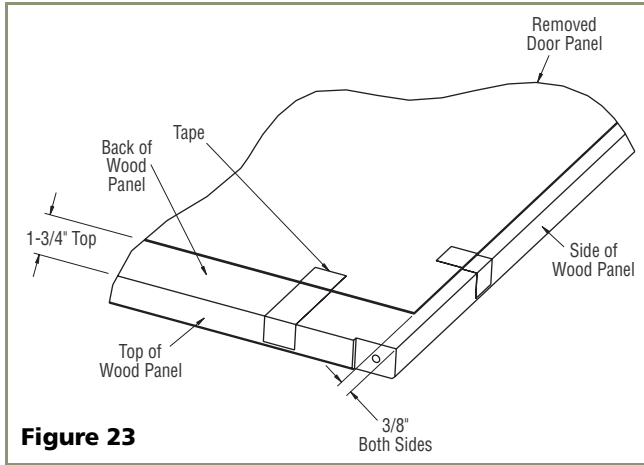
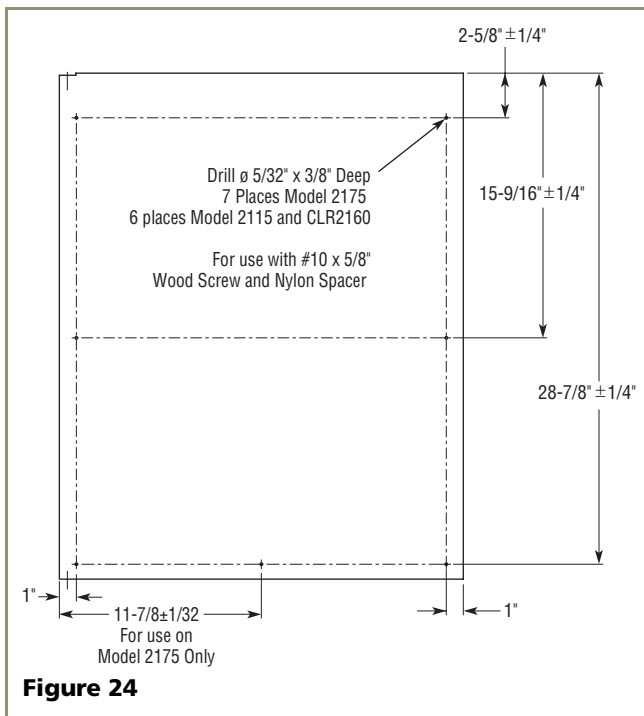

Figure 23
Figure 24
1. Place and tape the existing door panel on the back of the overlay panel (see **Figure 23**) and drill holes through both panels according to **Figure 24**. Remove tape adjoining the panels and enlarge the six holes in the steel (black/white vinyl color) panel using a 0.201" (#7) drill.